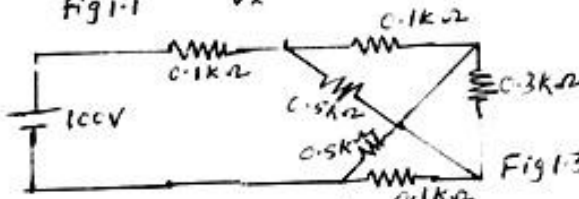

Fig 1.3
7. Determine the current supplied by the battery in in fig.1.3.